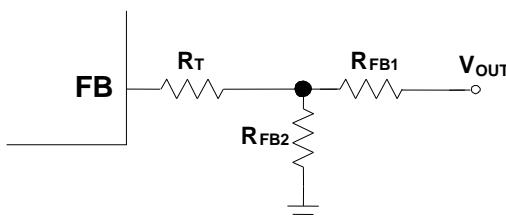

Figure 4: T-Type Feedback Network
The output voltage is set by the external resistor divider connected to FB (see Figure 4). The feedback resistor (R1) sets the feedback loop bandwidth with the internal compensation capacitor. Choose R_{FB1} to be about 40k Ω when V_{OUT} is at least 1V. R_{FB2} can then be calculated with Equation (1):
Use of a T-type network is highly recommended when V_{OUT} is low (see Figure 4).